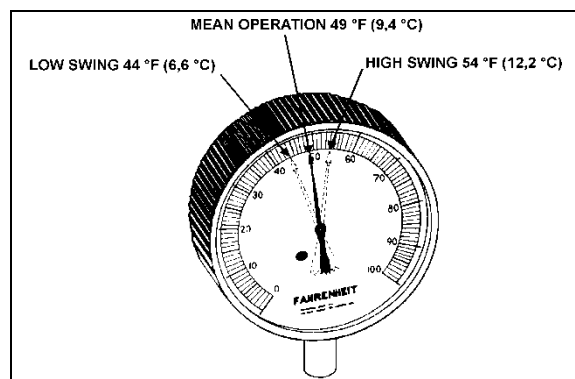

FIGURE 53: HIGH & LOW SWING TEMPERATURE AT REMOTE BULB 22047
6. Check approximately 5 readings of pressure at 2-minute intervals and convert to temperature using the vapor-pressure table. Likewise check the temperature reading at the remote bulb at the same 2-minute intervals and record the low and high swing readings of the needle (Figure 53).